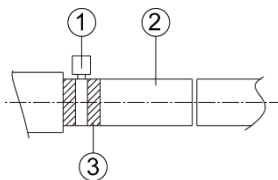
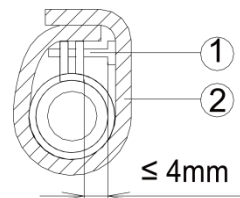

Fig 4.3.2
Fig 4.3.3
- (1) Insert the drain hose into the drain hole and tighten it with tapes, as shown in Fig 4.3.2.
- (2) Tighten the pipe clamp, with the distance between screw nut and hose smaller than 4mm.
- ① metal clamp(accessory)
- ② drain hose(accessory)
- (3) Use sealing plate to make the pipe clamp and hose insulated, as shown in Fig.4.3.3.
- ② thermal sponge(accessory)